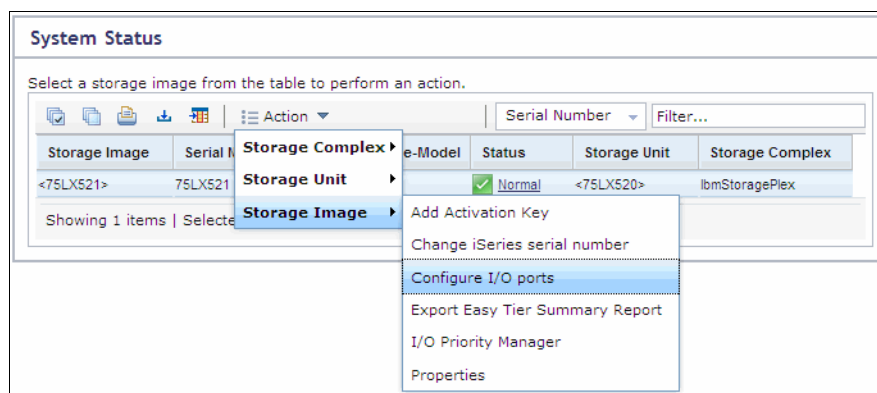

Figure 13-35 System Status window: Configure I/O ports
- Select the storage image for which you want to configure the ports and, from the **Action** drop-down menu, select **Storage Image** → **Configure I/O Ports** (Figure 13-35).